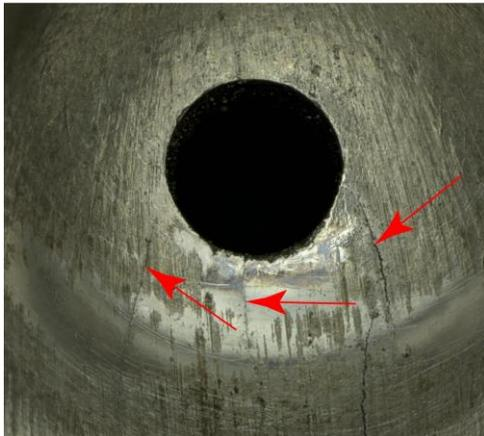

Figure 3
5. If cracks are found in the area to be inspected (Figures 3 and 4):